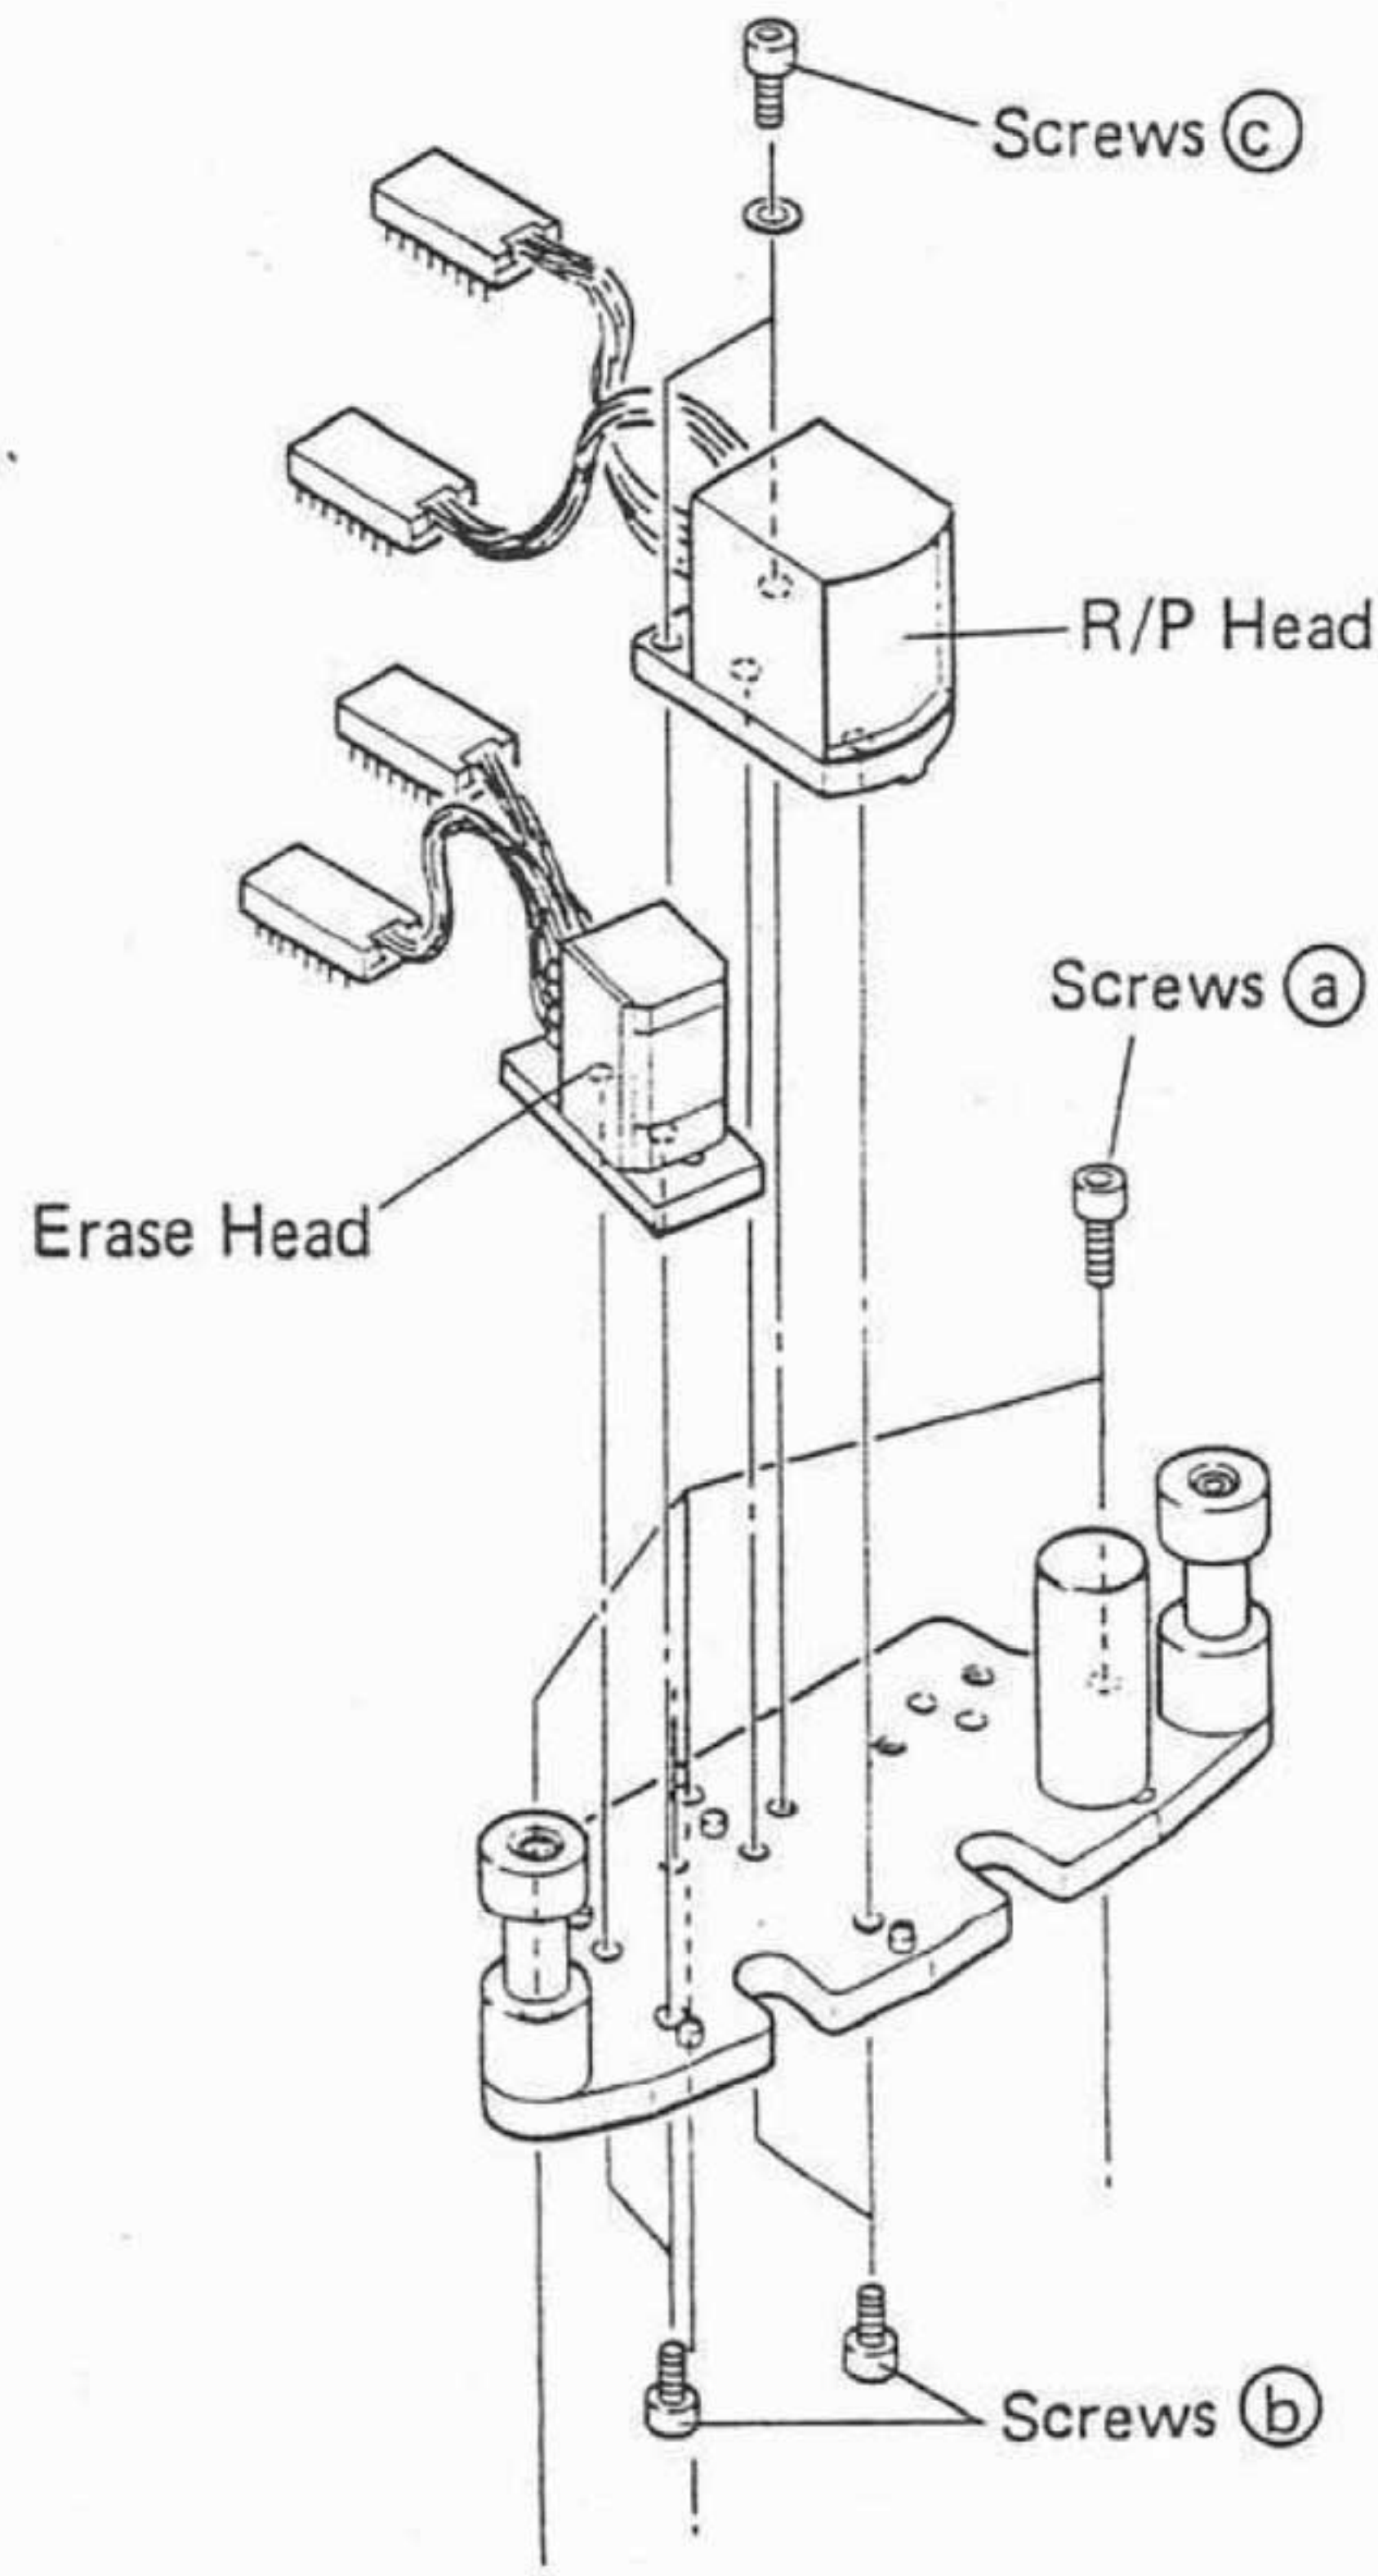

FIG. 8. HEAD REMOVAL
2. Unplug the connectors, remove the three screws marked (a) in Fig. 8, then remove the head assembly.